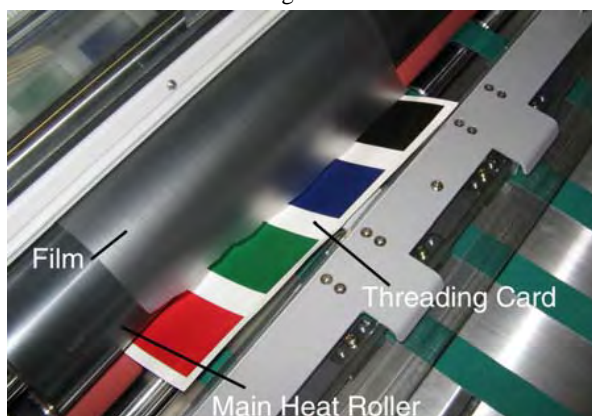

Figure 4
- Insert a **“Threading Card”** into the nip by pressing and holding **“LOADING”**. The **“Threading Card”** should be long enough to reach the **Pull Rollers** into the nip area. **NOTE: Use unprinted material to perform this function. If Printed paper must be used, make sure the printed area of the sheet DOES NOT make contact with the Heat Roller.** Continue to feed the Threading Card until the trailing edge clears the Feed Gate and about 3 inches of the image is left exposed. (Figure 4).